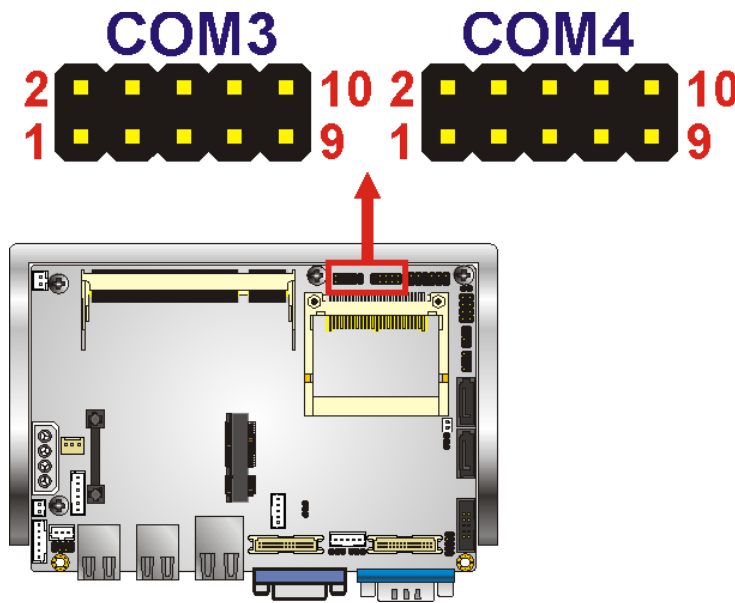

Figure 3-19: Serial Port Connector Location
- CN Location:** See Figure 3-19